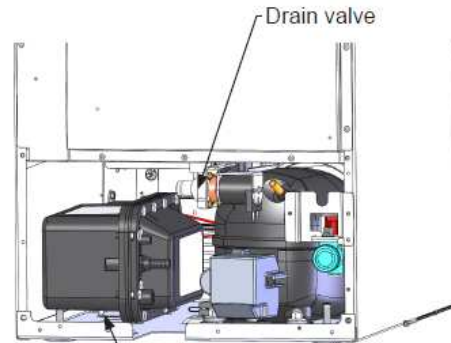
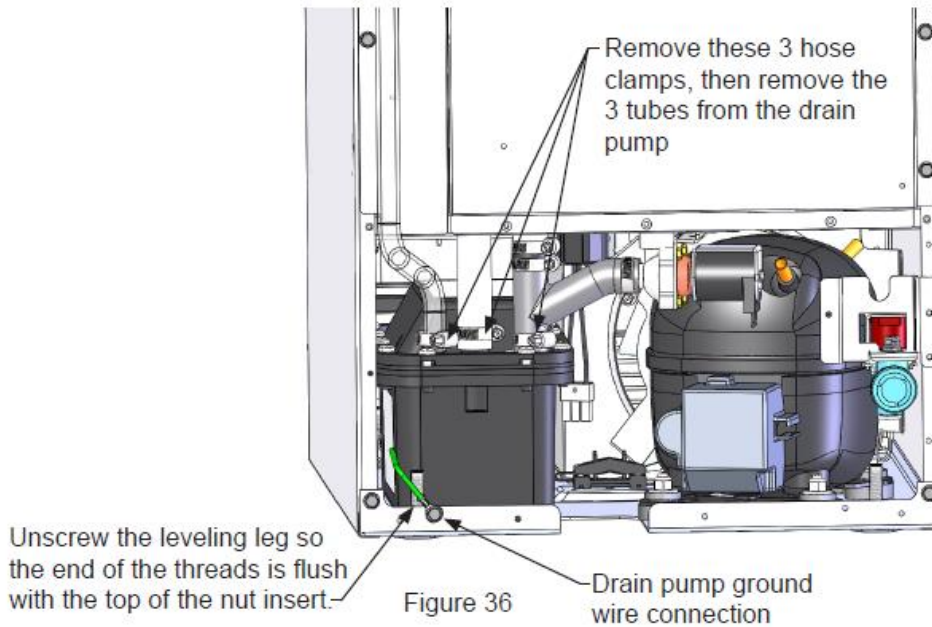

Figure 35
Figure 36
2. Unscrew the leveling leg in the back corner until the end of the threaded portion is flush with the threaded nut insert in the base. (see Figure 36).
3. Unscrew the 3 hose clamps and remove the 3 hoses from the front of the drain pump. (See Figure 36).
4. Rotate the drain pump and remove from the ice machine, (See Figure 35). It may be necessary to disconnect the ground wire connection in the back flange of the cabinet. (See Figure 36).